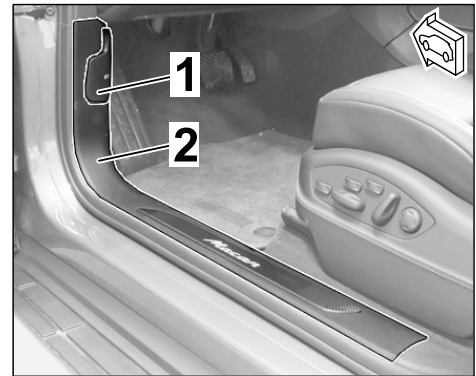

Figure 15
- 1.5.5 Remove front inner door sill trim (⇒ *Figure 15*) (⇒ *Workshop Manual '680519 Removing and installing front inner door sill trim*).